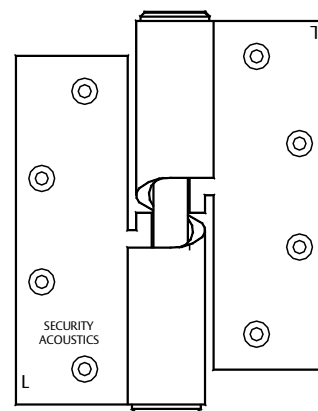

FIGURE 4
- 2. Mount the Gravity Glide hinges (Fig. 4) to the frame and door with the 12-24 flat head machine screws provided.** The hinge leaf with the pin mounts to the frame. All hinges are handed for left hand and right hand assemblies and are marked L for left hand or R for right hand on each leaf for proper identification. Set the door approximately 170 degrees in the open position and lift and lower the door onto the hinge pins. Note that acoustic doors are extremely heavy and assistance is recommended in hanging the door. Caution should be exercised to avoid damaging the hinge pins and the door bottom mortise in this step. Note that if flush bolts are provided for paired openings, these should be installed prior to hanging the door. Gravity Glide hinges are factory lubricated and should only require further lubrication as an annual maintenance task.